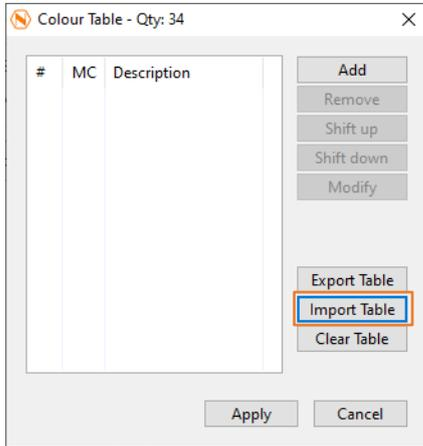

Figure 267
- 60. If the appearing Colour Table is not empty as shown in Figure 267 just press the -Clear Table- button.
- 61. Next click **Import Table** (Figure 267).